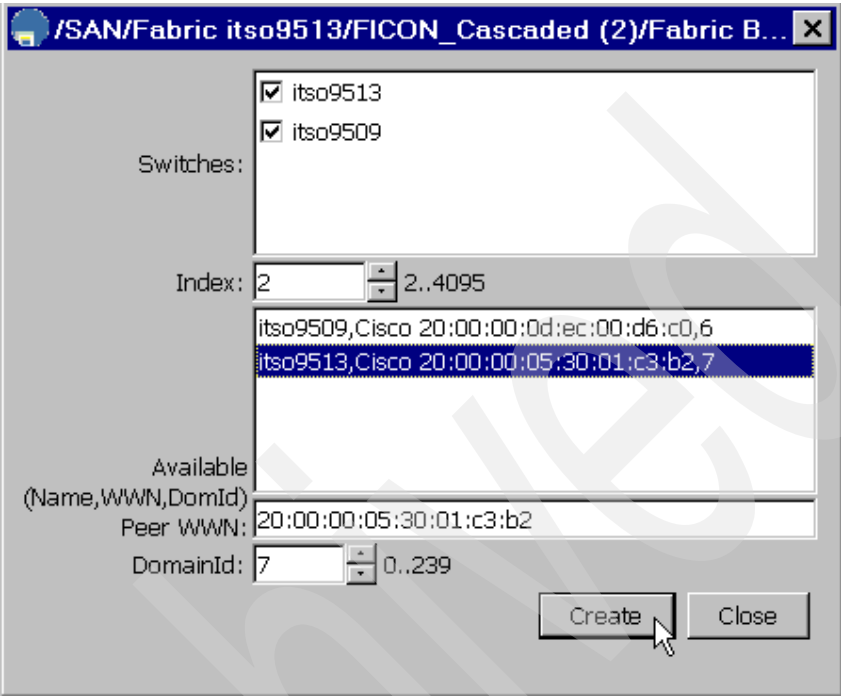

Figure 30 Creation of the fabric binding entry for the 9506 on both switches
3. Figure 30 shows adding the 9513 to the fabric binding database of both switches.